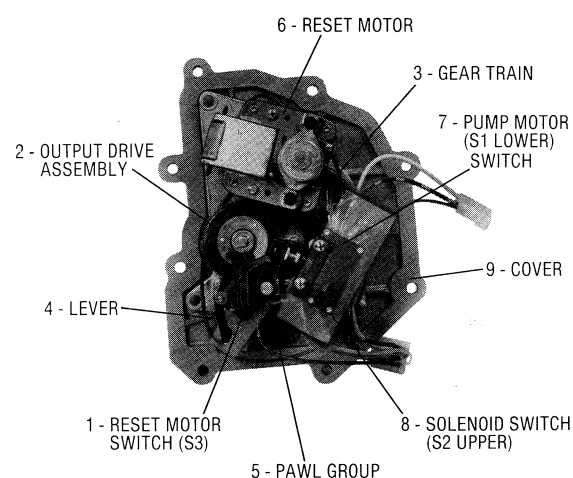

Figure 2. Series 7680 Offset Electric Reset Parts Identification.
B. SERIES 7680 OFFSET ELECTRIC RESET. Figure 2.
2. Rotating the handle to "motor on" position closes the switch, item 1, by means of cam (not shown) and lever, item 4. Closing switch, item 1, permits the reset motor, item 6, to run, driving the gear train, item 3. This power transmits through output drive assembly, item 2, and coupling to the computer, and provides the rotary motion necessary to reset the computer. These components are timed to provide an output rotation of 360 degrees.
3. Pump Motor Switch (S1) and Solenoid Control Switch (S2) Replacement and Adjustment for Series 7680 (see Figure 2).